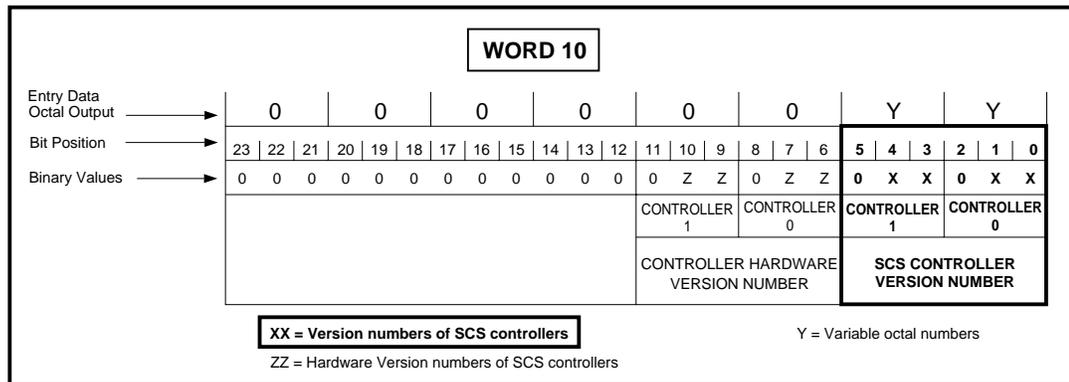

Figure 1. Word 10 in SCS Unit Type Translator Used to Determine Version Numbers of Controllers
11. At OLDDATA, enter the **existing** 2-digit octal number represented by bits 0 through 5 of octal word 10 in the SCS Unit Type Translator. (See Figure 1.)
The above responses are followed by a complete printout of the SCS Unit Type entry data. Use this printout and Figure 1 to determine if the SCC data (controller version number) was properly entered for both controllers. The version numbers for both controllers should be the same and should match the version number found in the "Version Number" column of Table A in DLP-545 for the file "SCCSFT".